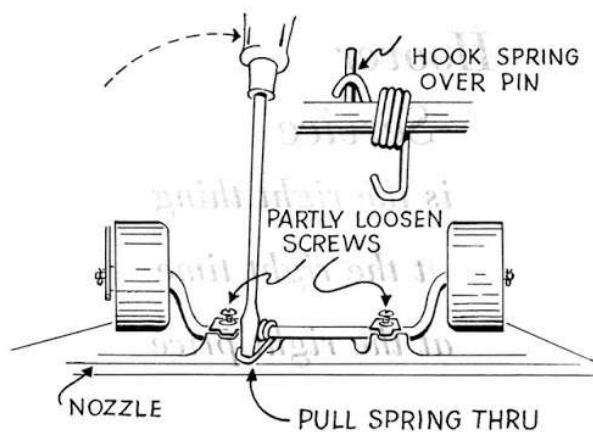

Fig. 6
2. To replace a nozzle adjustment spring, first hook the small round end of the spring over the pin in the front wheel shaft. See Fig. 6. Next place the rear wheel and foot lever assembly in the casting.
3. Replace the wheel shaft clamps and **start** the screws, then with a screw driver pry the large end of the nozzle adjustment spring against the main casting back of the agitator. This puts tension on the spring. See Fig. 6. Hold the shaft in this position with one hand and **tighten** the wheel shaft clamp screws.